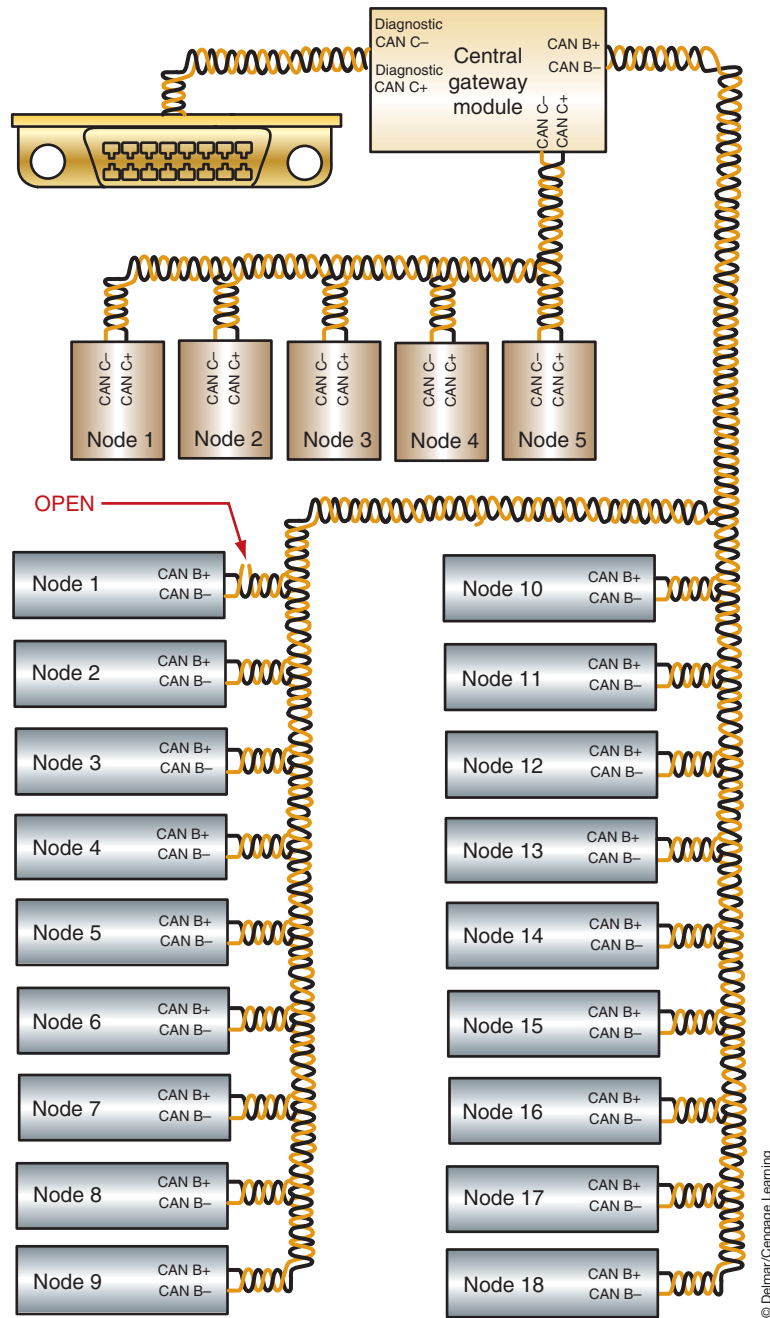

FIGURE 11-10 An open bus(-) wire at CAN B bus Node 1 does not prevent the other nodes from being active on the bus.
1. If the fault code indicates an open circuit fault with either the CAN B (+) or the CAN B (–) circuit (Figure 11-10), then determine and locate an easily accessed module on the CAN B bus system. At the connector for this component, create a short to ground on the opposite CAN B circuit. For example, if the fault code indicates that the CAN B (–) is open, then short the CAN B (+) circuit to ground. Since CAN B buses that operate at speeds up to 125 Kb/s are fault tolerant and will operate in single-wire mode as long as an electrical potential exists between one of the circuits and ground, the open may not cause any noticeable symptoms. However, when the other circuit is shorted to ground, that module can no longer communicate. All other modules will communicate using the single-wire mode (Figure 11-11). With the wire shorted to ground, use the scan tool to determine which module is not communicating on the bus. Locate this module on the vehicle. The fault will be between the splice from the affected bus circuit to the module.